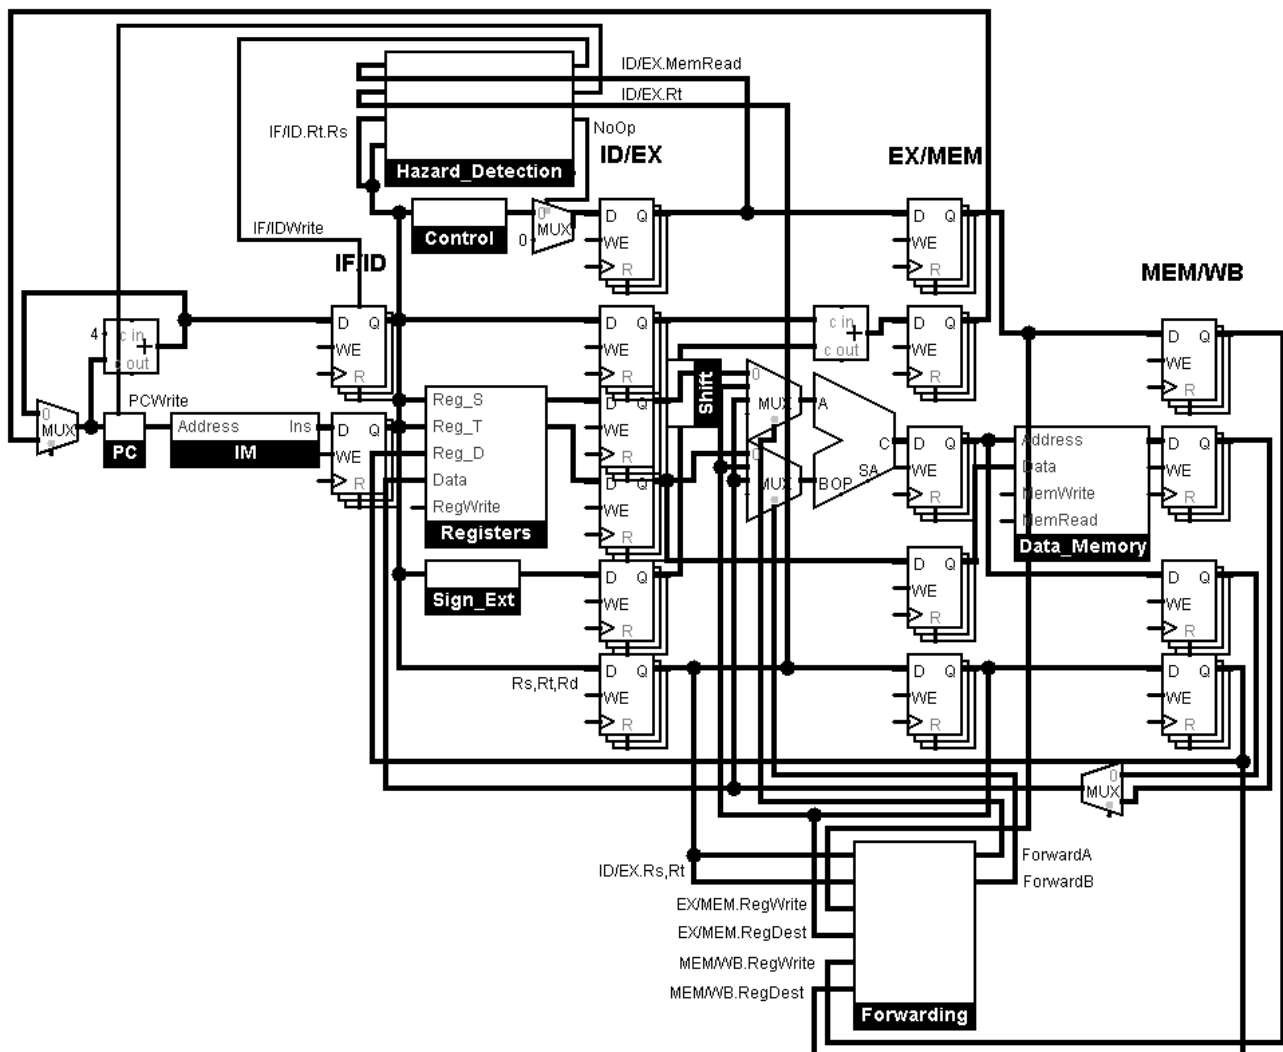

Figure 13: Pipeline with Data Hazard Handling
- Figure 13 shows the complete pipeline with data hazard handling